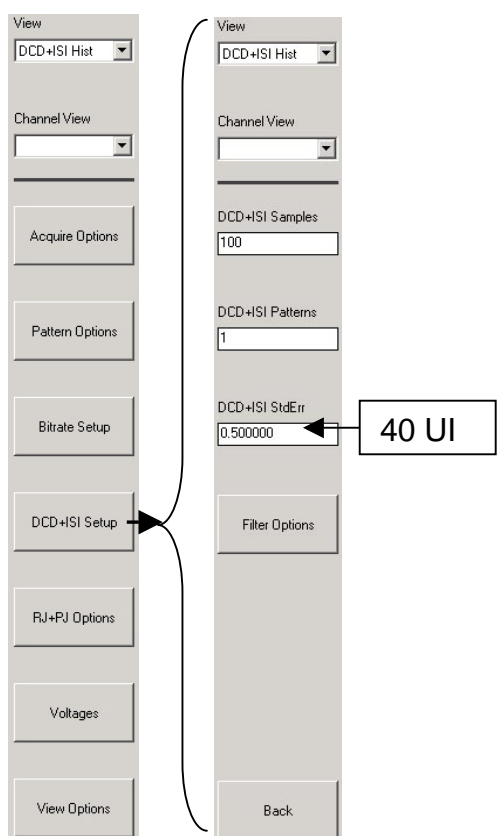

Figure 13: DCD+ISI StdErr
The low frequency portion of the specification (3MHz and below) is dominated by Periodic Jitter (PJ) due to the SSC. To accurately measure this, it is desired that the part is generating a clock like pattern (1010) so that the clock tools can be used to measure the PJ (see next section). If this cannot be done, you can use the dataCOM KPWM tool to measure the PJ. For this setup, open the KPWM dataCOM tool. Setup the pattern and channels as described in the previous section (dataCOM Setup). In this case, you want to set the corner frequency to 15kHz or lower (10kHz recommended). This will ensure that you see at least one full cycle of the 30kHz SSC in order to accurately measure its amplitude. If you now run this tool you will likely get the error “DCD+ISI Failure - Unknown pattern or no signal”. This is due to the large PJ amplitude. The PJ is so large (40UI) that the DCD+ISI part of the measurement will have edges that are displaced more than 0.5 UI from their ideal position. The tool will fail in its default setup. To alleviate this problem, you need to set the error checking to a higher value. This is shown in Figure 13. Go into